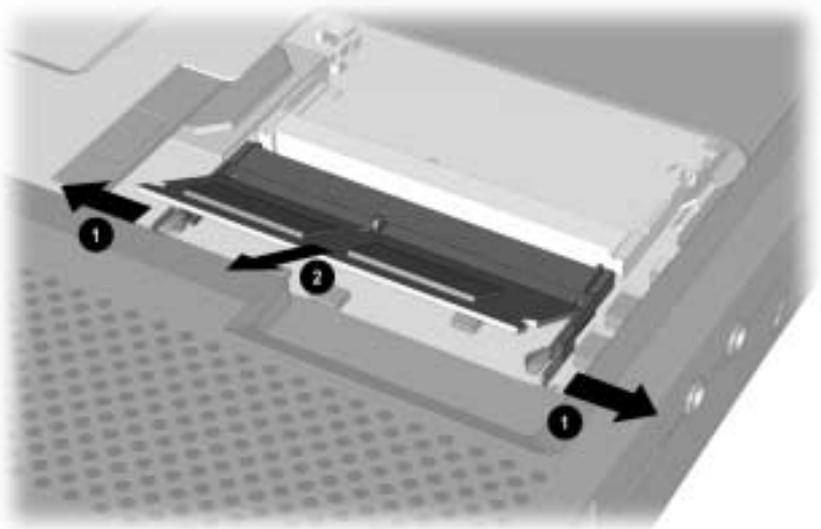

Figure 5-10. Removing a Memory Expansion Board
3. Spread the retaining tabs apart **1**. The memory expansion board tilts upward (Figure 5-10).